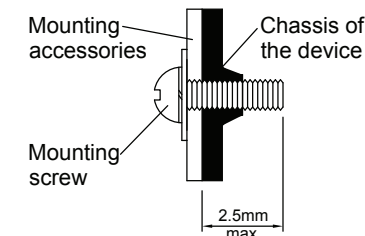

Figure 4 - Mounting Screw
4. Installation of Mounting Accessories (Fig. 4)